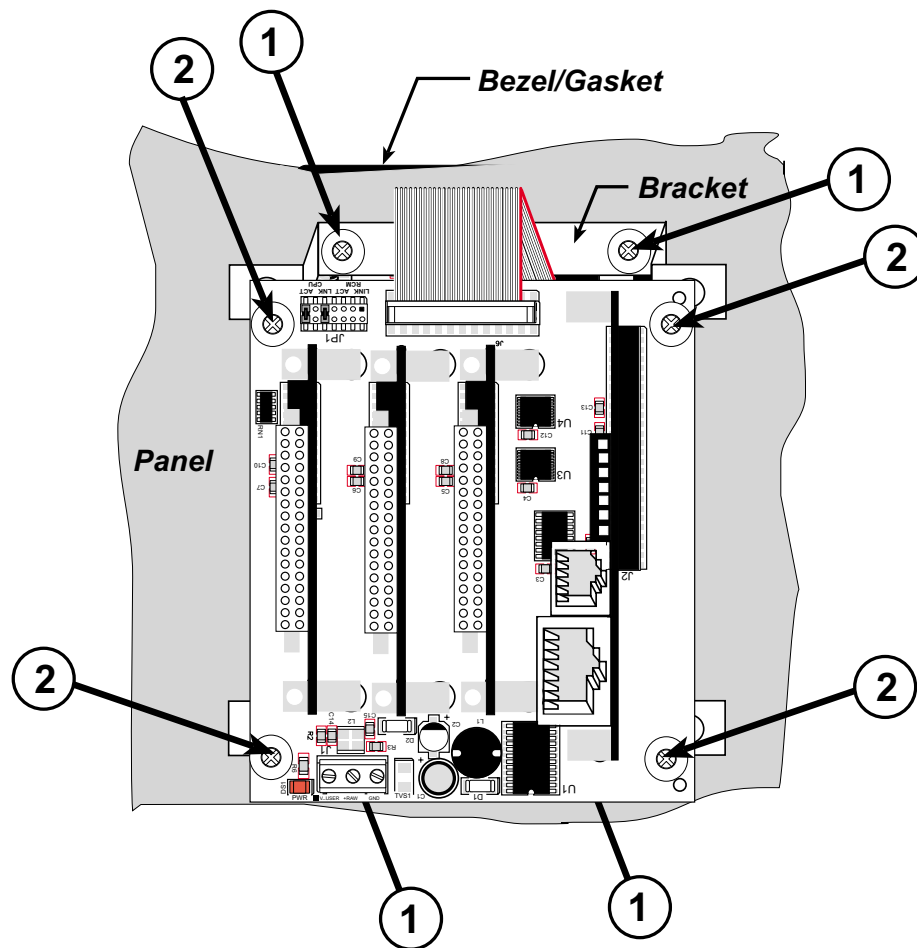

Figure B-8. Install Smart Star Backplane Behind LCD/Keypad Module
2. Use brackets to secure the LCD/keypad module to the panel using the four 4-40 screws and washers included with the LCD/keypad module. The four screw positions are indicated with the number 1 in Figure B-8. If your panel is thick, use a 4-40 screw that is approximately 3/16" (5 mm) longer than the thickness of the panel.
3. Use a ribbon cable to connect header J6 on the backplane to header J1 on the LCD/keypad module. Note the pin 1 positions reflected by the red-colored line in the ribbon cable shown in Figure B-8.
4. Secure the Smart Star backplane using four 4-40 × ½" or 6-32 × ½" screws at the screw positions indicated with the number 2 in Figure B-8.